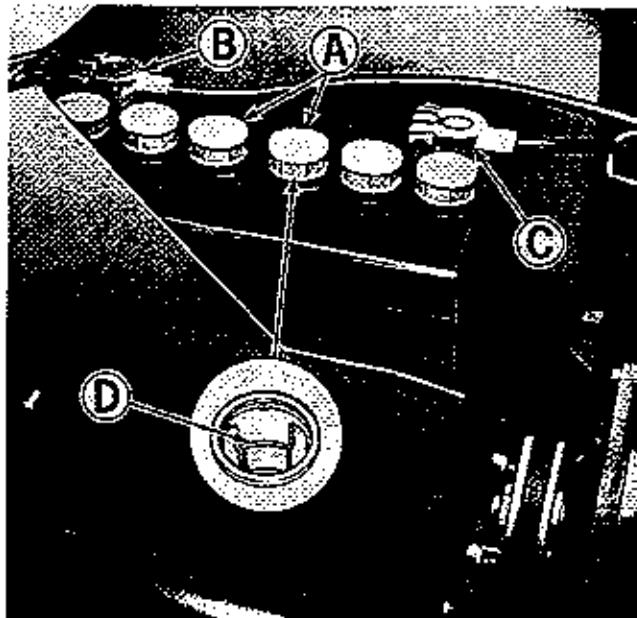

Figure 32. Tractor battery visible when hood is raised.
CHECK BATTERY WATER LEVEL: See figure 32. Every 25 hours, or more often when operating the tractor in temperatures above 72°F, remove the 6 battery caps (A) and check the water level in each cell. When the battery is in use, water evaporates from it. Never allow the water level in the battery to get below the top of the plates. Fill the battery to the marking ring with distilled water as shown in figure 32. If distilled water is not available, clean tap water may be used.
CLEAN BATTERY CABLES: See figure 32. Every 100 hours or once a year the battery cables (B) and (C) should be removed and cleaned. **CAUTION: ALWAYS REMOVE THE NEGATIVE GROUND CABLE (C) FIRST AND REPLACE IT LAST.** Clean the battery with soap and water to remove all dirt, oil, and corrosion from the battery surface. Do not allow foreign material or cleaning solution to get inside the battery. Clean the terminals and battery clamps with a wire brush. Replace and tighten securely. After tightening coat the terminals and clamps liberally with a coat of grease or vaseline to inhibit corrosion.